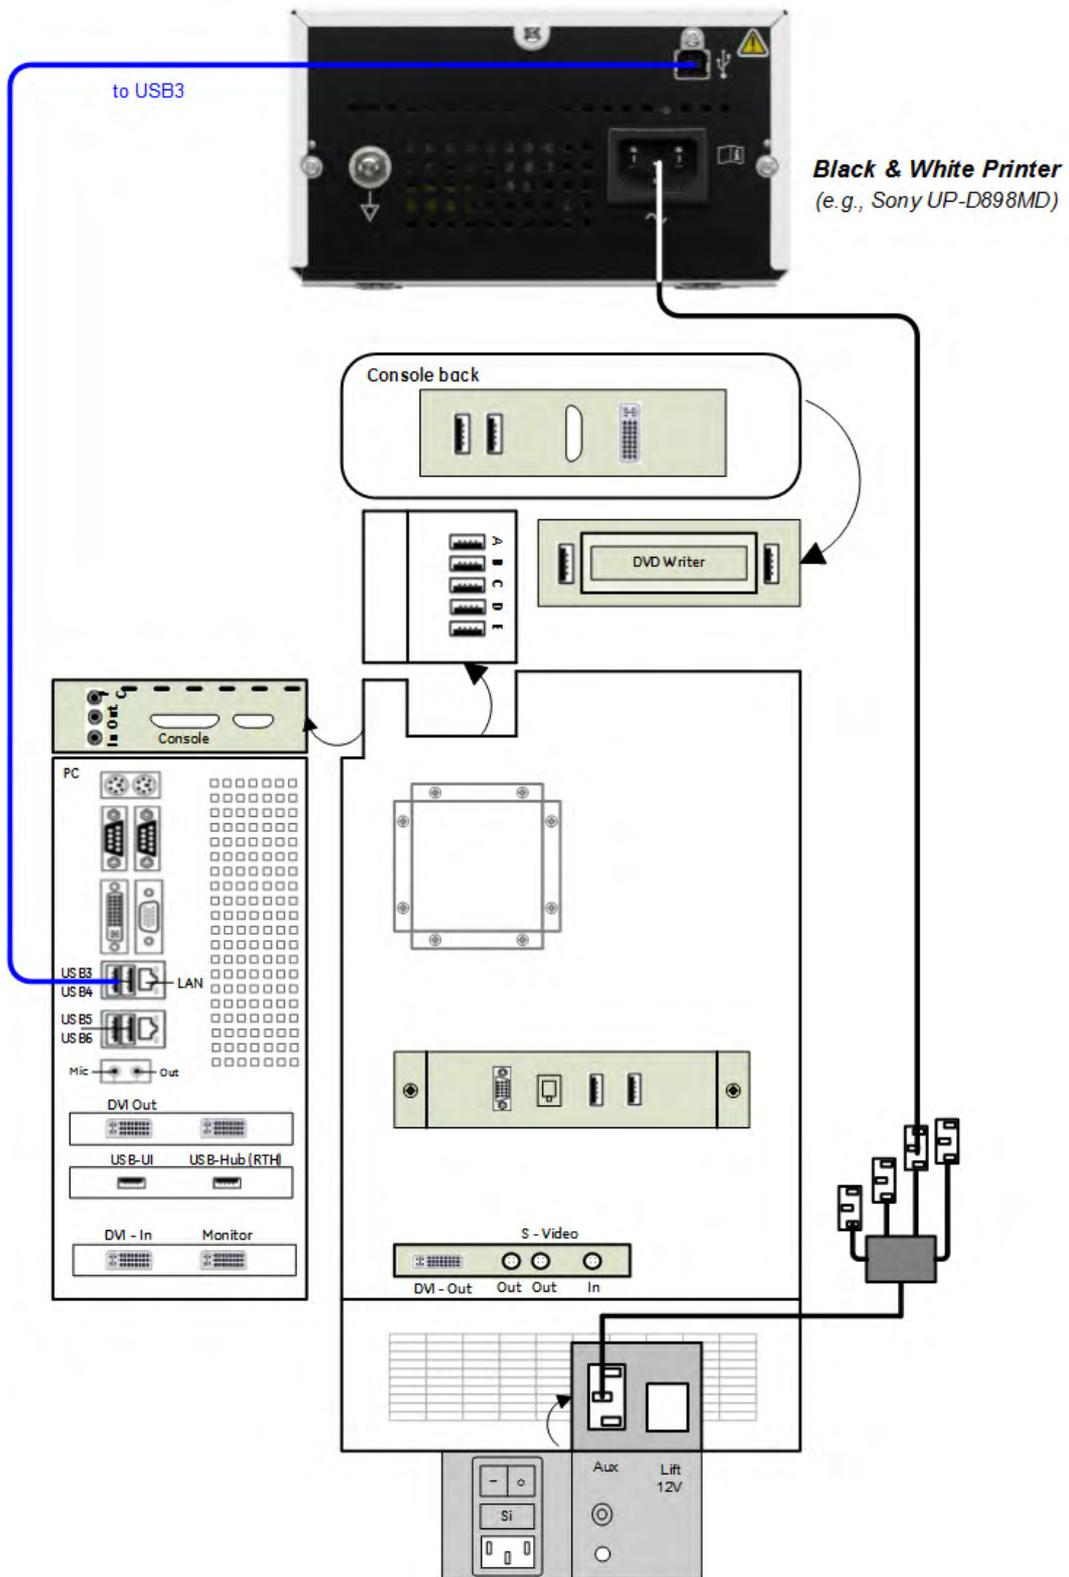

Figure 3-4 Connection Scheme - B&W Printer
- b. Press the Power ON button (1) on the printer.
- c. Enter the Menu by pushing the **Joystick** key (2).
3. Connect the Black & White printer according to connection scheme, see: Figure 3-4 on page 3-12.